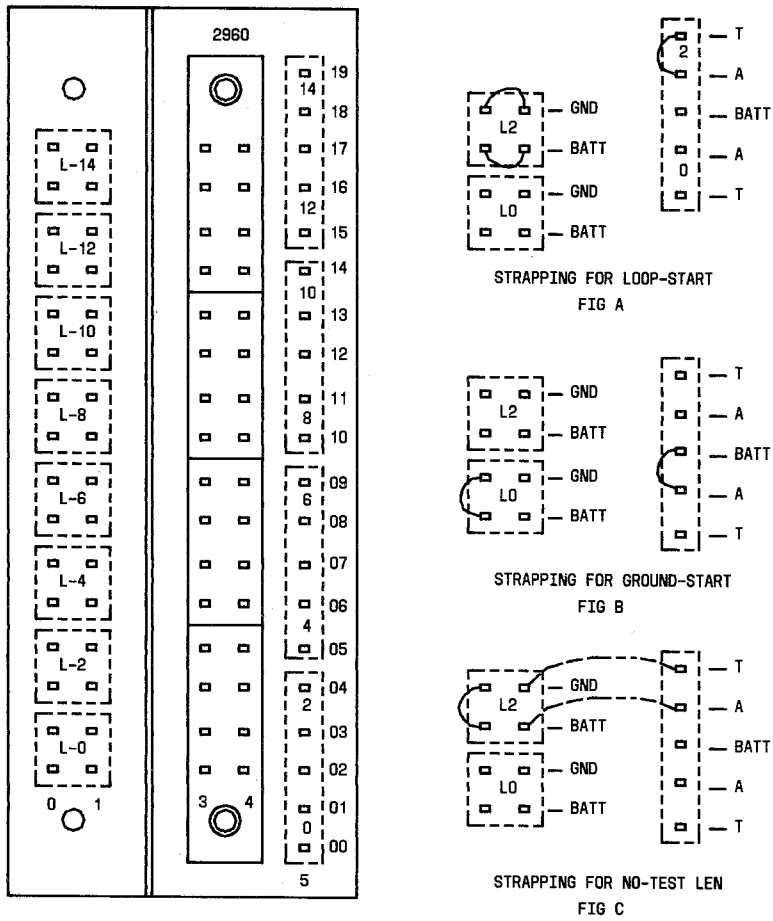

Fig. 8—Remreed Switch Package Type 296D—(Front View)
3.07 In the remreed line link network, the stage 0 type 296D input switch package contains 64 crosspoints arranged in four 4 by 4 matrixs used in the 12B concentrator grids or a 16 by 4/8 matrix used in the 13B concentrator grids. Also included and wired internally are 16 type 2A ferrod sensors and 16 cutoff crosspoints. The connections shown in Fig. 8 indicate that all odd numbered sensor/cutoff combinations (L1, L3, L5__L15) are wired internally in a loop start mode. Connections from all even numbered sensor/cutoff combinations (L0, L1, L4__L14) are brought out to front terminals where they can be strapped for loop